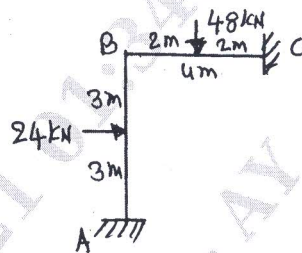

Fig.Q7
- 7 Analyze the frame shown in Fig.Q7 by direct stiffness method. Take  $E = 200 \text{ GPa}$ ,  $A = 0.04 \text{ m}^2$  and  $I = 1.33 \times 10^{-4} \text{ m}^4$ . The flexural rigidity  $EI$  and axial rigidity  $AE$  are the same for both the beams.